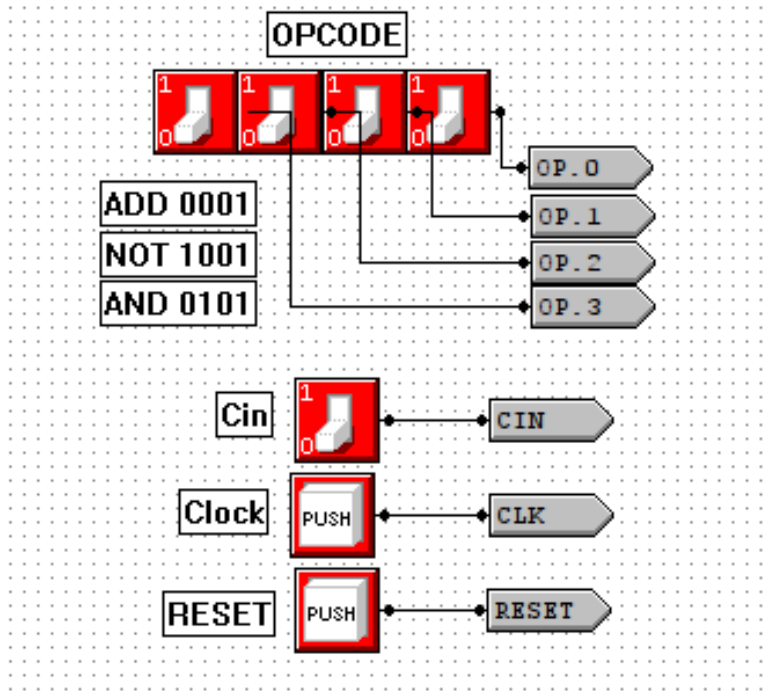

Figure 2: Opcode Input Section
- **4-bit OpCode** - The ALU needs to know which function to perform. Although a 4-bit opcode input could technically specify 16 unique instructions to the ALU, we will only be using three of the available values ([1001], [0001], [0101] for NOT, ADD, and AND respectively). The opcode is entered by setting 4 switches to either a high or low state, as seen in Figure 2.